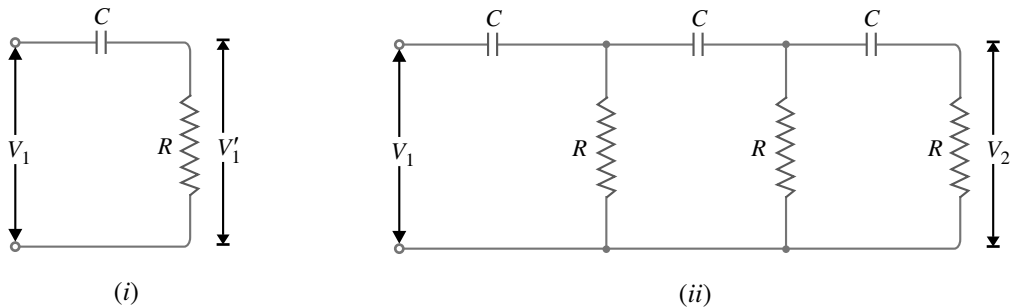

Fig. 12.20
**Phase shift circuit.** A phase-shift circuit essentially consists of an  $R$ - $C$  network. Fig. 12.20 (i) shows a single section of  $RC$  network. From the elementary theory of electrical engineering, it can be shown that alternating voltage  $V'_1$  across  $R$  leads the applied voltage  $V_1$  by  $\phi$ . The value of  $\phi$  depends upon the values of  $R$  and  $C$ . If resistance  $R$  is varied, the value of  $\phi$  also changes. If  $R$  were reduced to zero,  $V'_1$  will lead  $V_1$  by  $90^\circ$  i.e.  $\phi = 90^\circ$ . However, adjusting  $R$  to zero would be impracticable because it would lead to no voltage across  $R$ . Therefore, in practice,  $R$  is varied to such a value that makes  $V'_1$  to lead  $V_1$  by  $60^\circ$ .
Fig. 12.20 (ii) shows the three sections of  $RC$  network. Each section produces a phase shift of  $60^\circ$ . Consequently, a total phase shift of  $180^\circ$  is produced i.e. voltage  $V_2$  leads the voltage  $V_1$  by  $180^\circ$ .